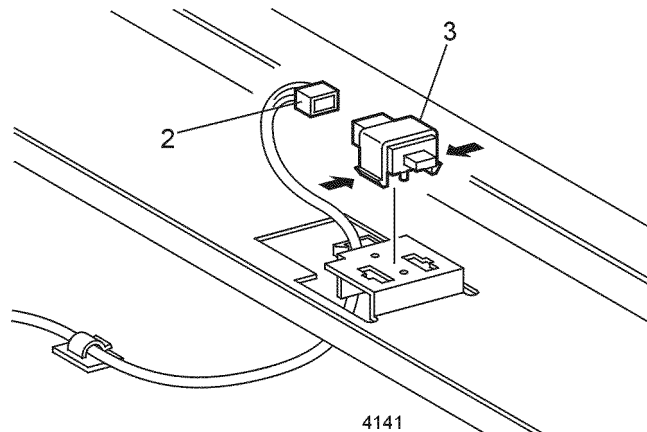

Figure 1 Paper Size Sensor
2. Disconnect P/J612 from the Paper Size Sensor (Figure 1).
3. Release the two locking tabs and remove the Sensor (Figure 1).